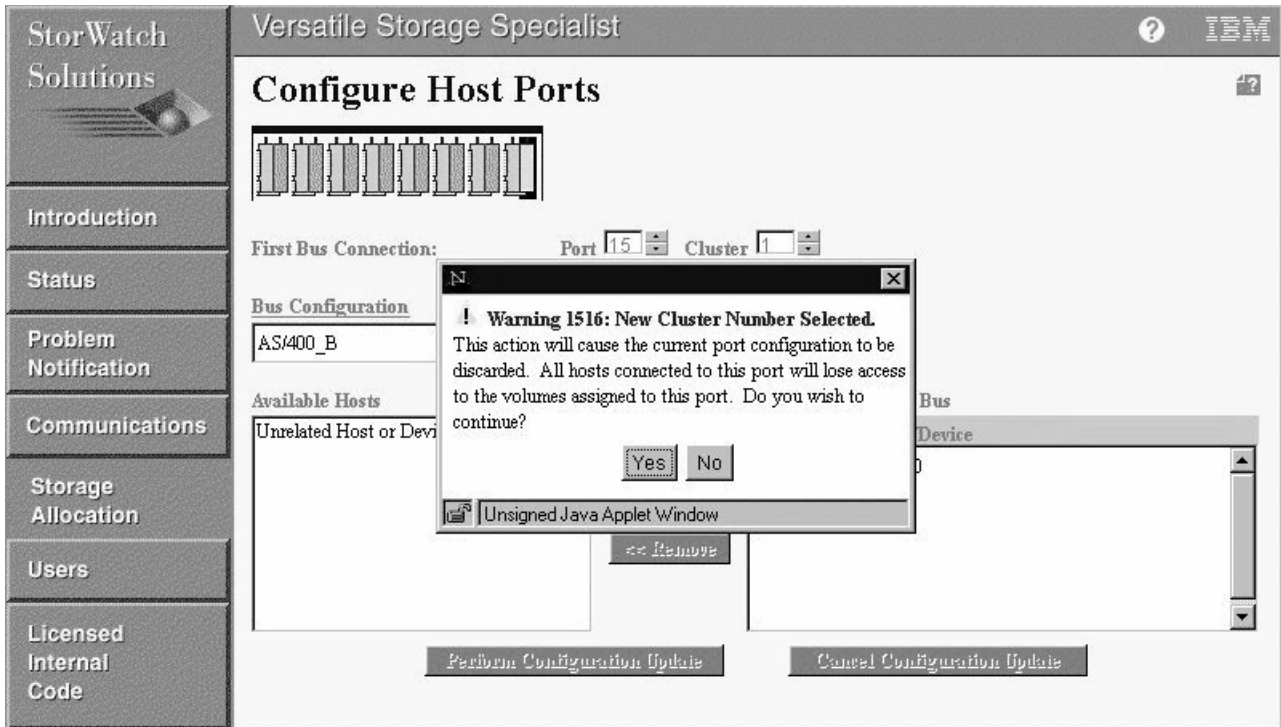

Figure 50. Changing Cluster Affinity: Warning Message
4. A warning message appears (see Figure 50 on page 72).